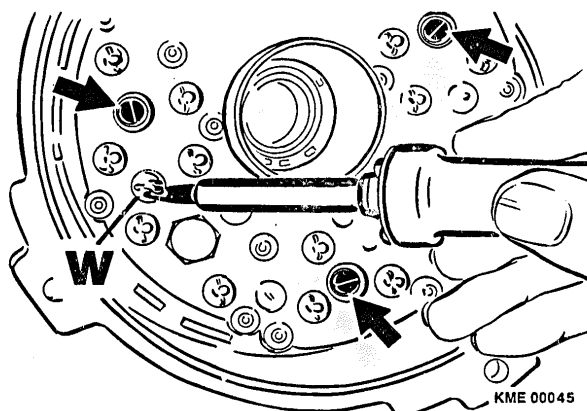

Figure 34 Rectifier Mounting and Soldering of Terminal W
10. Install the three (3) rectifier mounting screws and torque to 1.3 to 1.7 Nm (11.5 to 15 in. lbs.).
11. Solder the soldering lug of terminal W to the solder pad of the rectifier assembly with rosin core solder. (Figure 34)